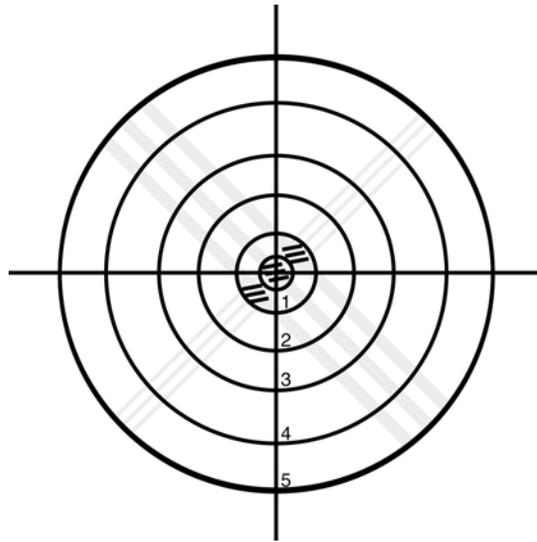

FIGURE 6
1. If the two sets of target lines cannot be focused at the same time, or both sets of lines appear broken or are blurry (Figure 6), the lens is a sphero-cylinder. Determine the lens power by focusing the sphere and cylinder lines separately, as follows: